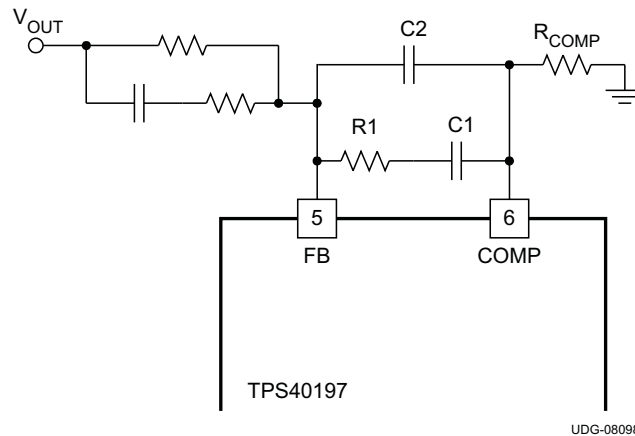

Figure 16. Short Circuit Threshold Feedback Network
- $R1$ and $C1$ are the values of the components in Figure 16